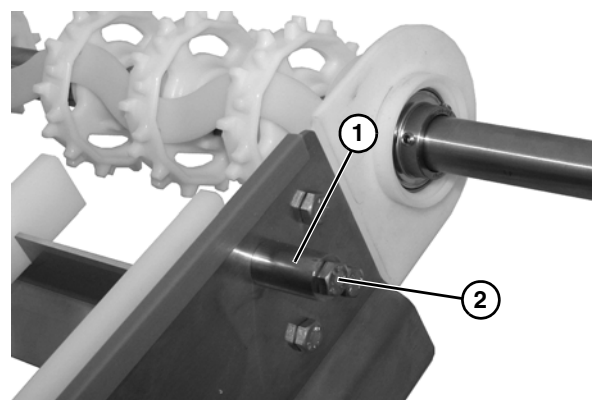

Figure 4
1. On each side of conveyor, remove upper front head plate mounting screw and install spacer (Figure 4, item 1) with longer screw (Figure 4, item 2).